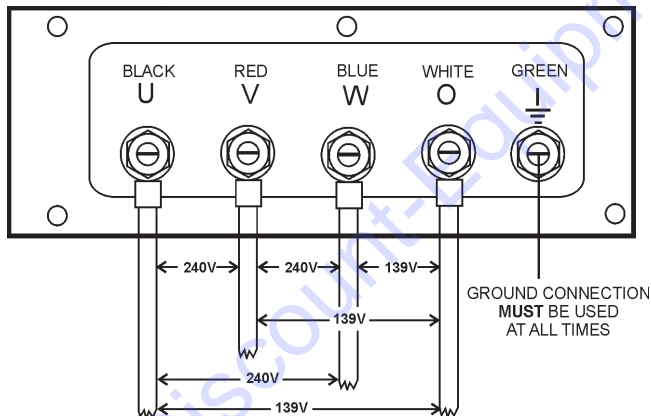

Figure 20. Output Terminal Lugs 240/139V Three Phase Connections
2. Connect the load wires to the **Output Terminal Lugs** as shown in Figure 20.